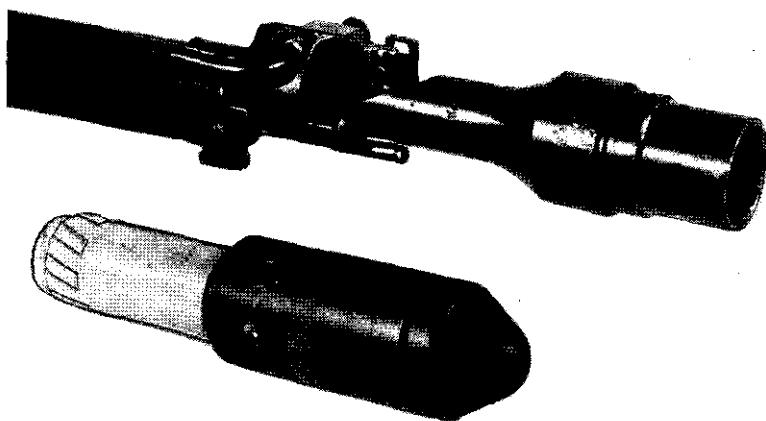
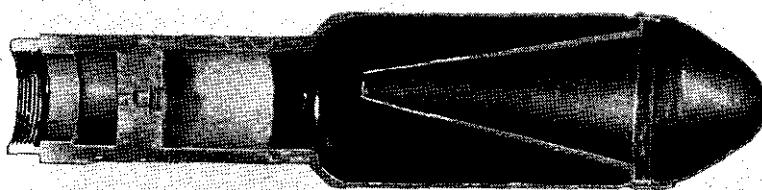

Figure 22.—Armor-piercing rifle grenade and cup-type grenade launcher. (The grenade in this illustration corresponds to the German *gr.G.Pzgr.* type.)
Figure 23.—Cross section of armor-piercing rifle grenade, showing hollow charge. (This grenade corresponds to the German *gr.G.Pzgr. type*.)
(2) *Grenade launchers*.—(a) *General*.—There are two types of rifle-grenade launchers—a cup type and a spigot type. The cup-type launcher (fig. 22) is fitted over the muzzle and locked over the front sight of the rifle. It has a short, rifled barrel, and is a faithful copy of the German cup-type launcher (*Schiessbecher*) used to fire the German rifle grenades *G.Pzgr.*¹⁴ and *gr.G.Pzgr.*¹⁵.
(b) *Cup-type*.—The armor-piercing grenade (fig. 22) for this cup-type launcher works on the hollow-charge principle (fig. 23)¹⁶ and is a copy of the Ger-
¹⁵ *Grosse Gewehr-Panzergranate* (see figs. 22 and 23).